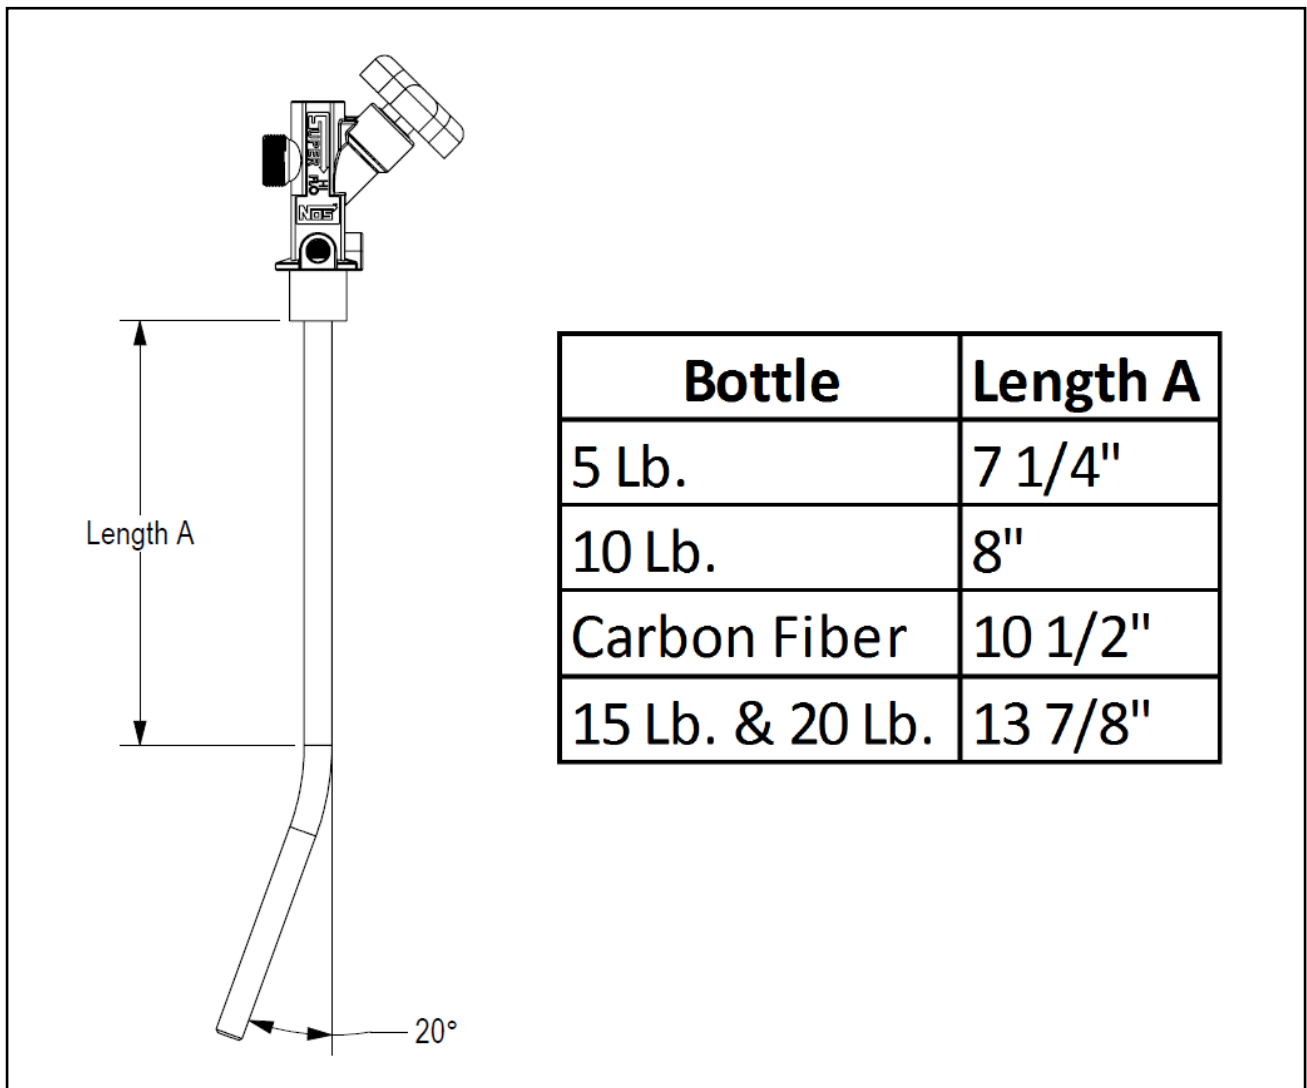

Figure 1
1. See **Figure 1** for dimensions of the finished siphon tube/valve assembly. **Valve handle must be directly opposite of siphon tube dogleg after bending for final bottle assembly as seen in Figure 1.**